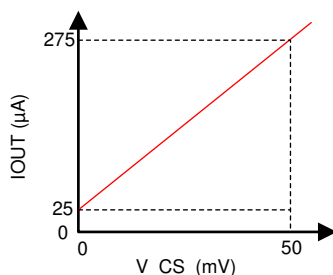

Figure 23. Channel Monitor Current Source vs Current Sense Voltage
- the 25 μA is a DC offset current superimposed on to the IOUT signals (refer to Figure 23). (12)